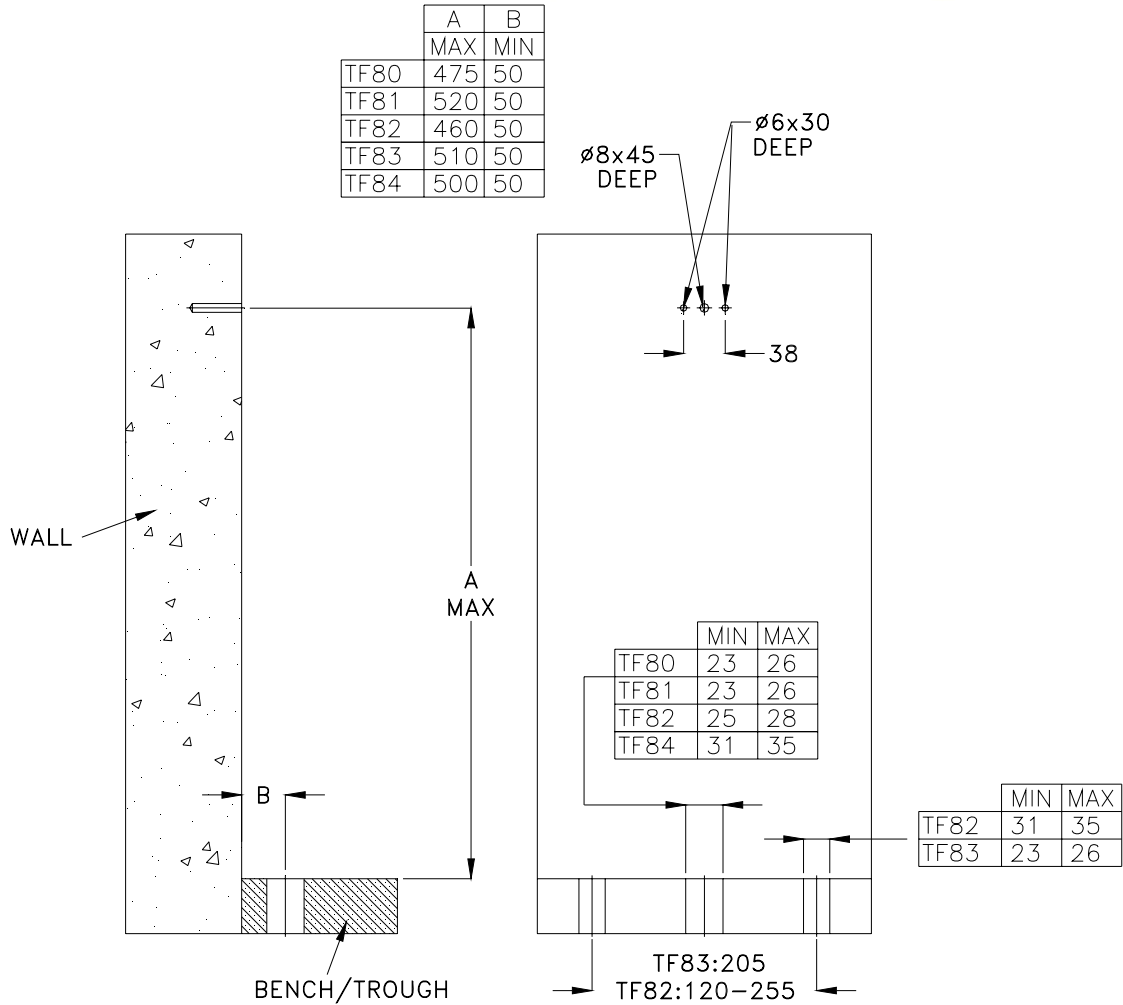

Figure 1 – Mounting detail for Hob Mounted Pre-Rinse Unit
1. If the mounting holes do not already exist, mark out and drill the hole/s in the bench/trough to suit the required model as shown in Fig. 1 page 3
3. Mark out the three (3) holes for mounting the Wall Bracket Assembly, at a height less than 'A' as shown in Fig 1. Drill the three (3) holes to suit the fasteners supplied (The fasteners may not be appropriate for all wall materials. If this is the case, other fastening systems will have to be sourced by the installer).